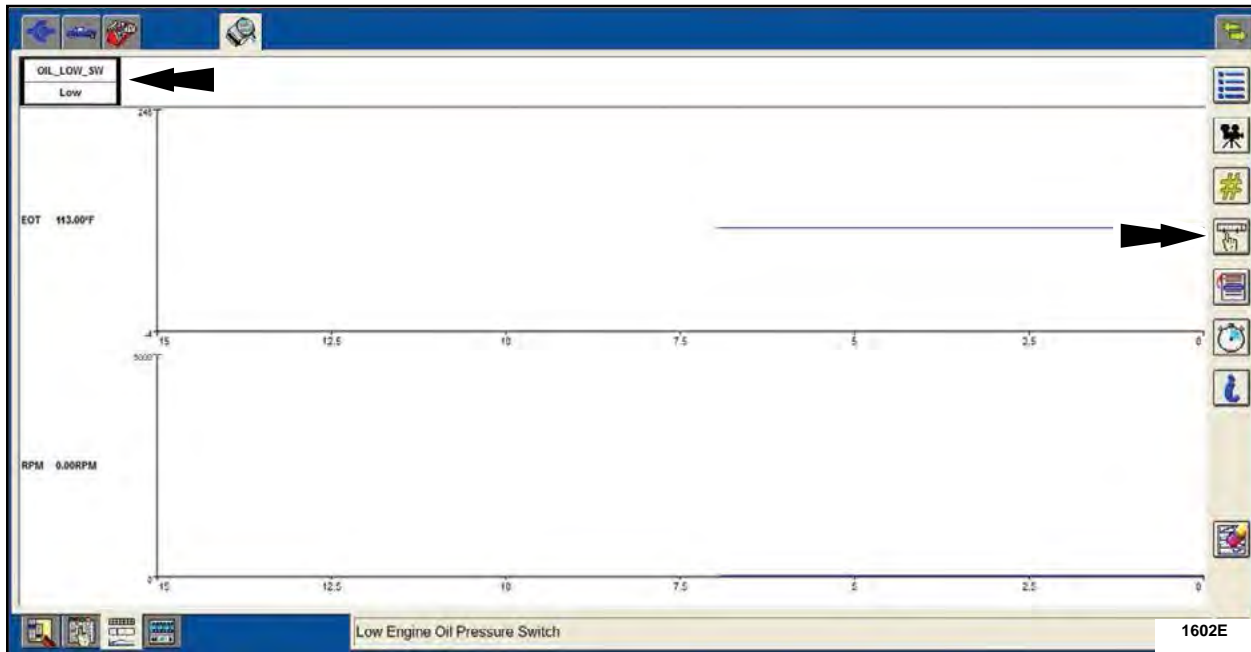

FIGURE 5
NOTE: Do not start the engine until the OIL_LOW_SW (MODE) PID and the RPM (RPM) PID are displayed in graph form as shown in Figure 5.
7. On the graph screen, select the OIL_LOW_SW PID in the upper LH corner of the screen and then click the plot format button. See Figure 5.